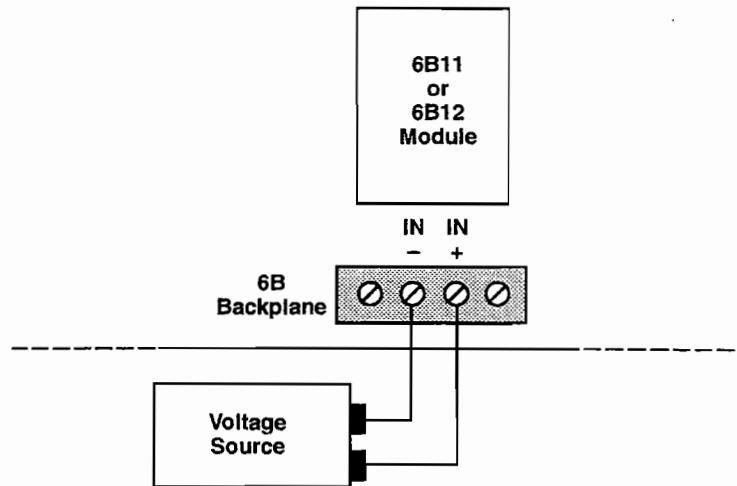

Figure C-1. Applying Calibration Voltage
- 4a. For 6B11 and 6B12 modules, apply the appropriate calibration voltage to the screw terminals on the +IN and -IN inputs, as shown in Figure C-1.